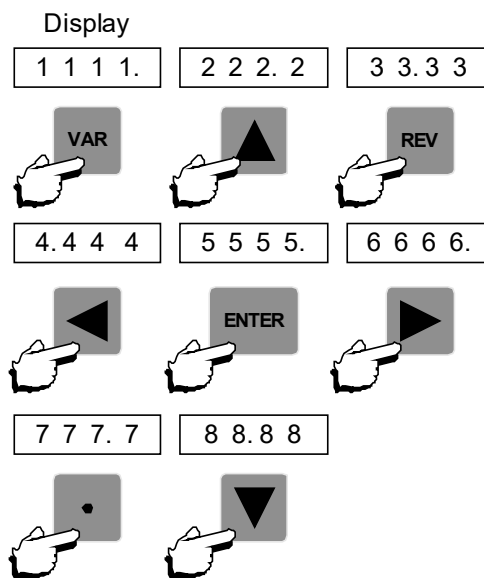

Figure 19: Keypad Test Showing the Display after Each Key Press
3.	Press each key from left to right and the display will appear as shown in Figure 19. Note the position of the decimal point after each key press.